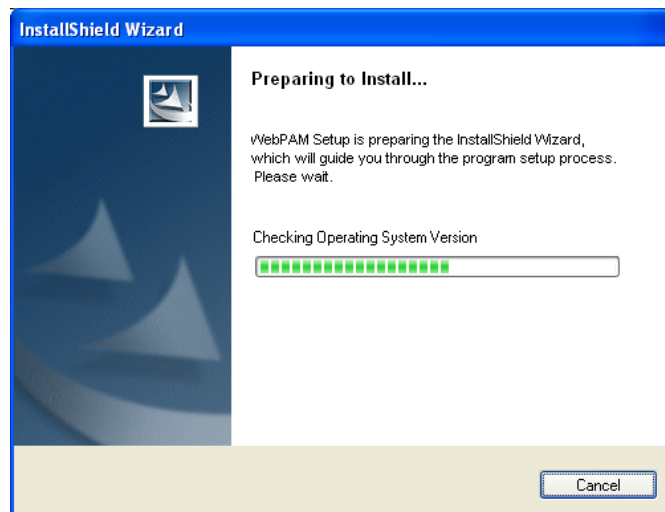

Figure 7-30: SATA RAID Setup Program Icon
Step 8: The RAID Utility installation procedure is initiated as shown in Figure 7-30.